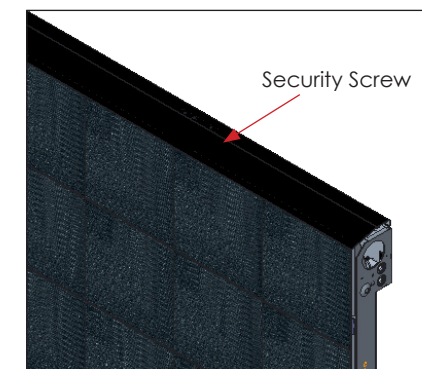

Figure 10: Closed Beverage Shroud
1. Release the beverage shroud latches by rotating them counterclockwise with the $\frac{5}{16}$ " hex security bit (Daktronics part number TH-1170) supplied in the toolkit to release the latches. Refer to **Figure 10**.